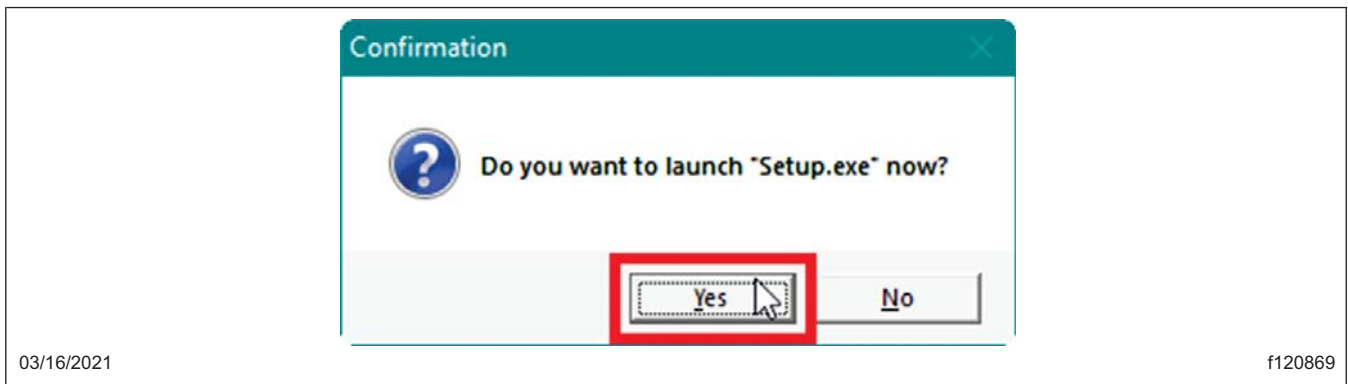

Fig. 9, Launching the Set-Up of the mBSP Executable File
7.3 When the extraction is finished, a pop-up window will ask if you want to launch 'Setup.exe.' Select 'Yes.' See Fig. 9.